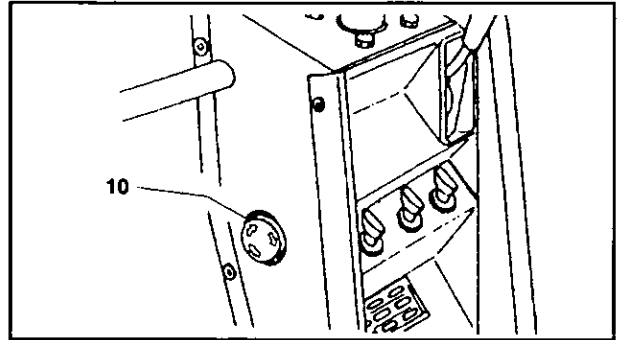

Figure 3-10 Emergency Stop
The red engine emergency stop/Parking Brake button switch (10 Figure 3-10) may be used to stop movement of the machine in the event of any emergency.
Pressing in this switch, (10, Figure 3-10), will result in automatic application of the disc brakes and bringing the machine to a smooth stop without stopping the engine..
- The RED Emergency Stop Switch (10, Figure 3-10), is depressed